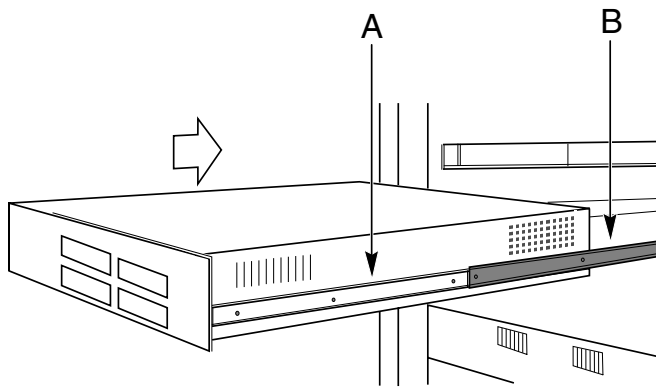

Figure: Step 9
- 9 Lift the chassis with the front facing you and carefully guide the inner rail (A in Figure Step 9), which is mounted to the chassis system, into the outer pieces (B in Figure Step 9) that you attached in previous steps. Gently move the system evenly towards the rear of the cabinet. Be sure to depress the brass colored finger tabs located in the center of each inner side rail piece as you slide the chassis back.